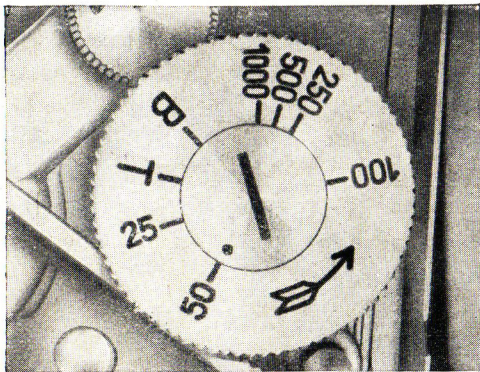

Fig. 10
The focal-plane shutter of the EXAKTA VX is remarkable by its great variety of exposures. With the fast speed knob (8) (Fig. 10) the exposures of $1/1000$ up to $1/25$ sec. are set. The figures engraved are fractions of seconds: $25 = 1/25$, $50 = 1/50$ sec. etc.